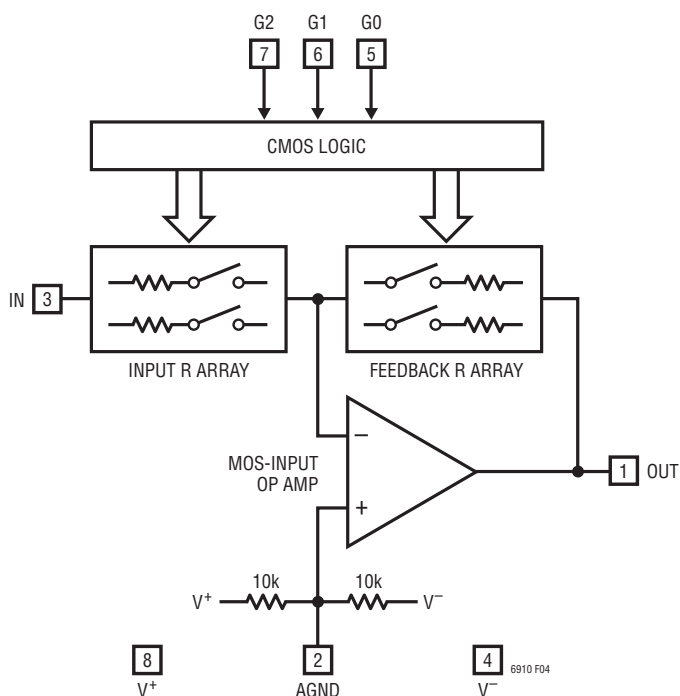
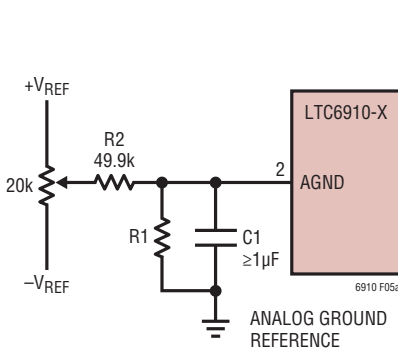

Figure 4. Block Diagram
Figure 5a. Offset Nulling
**AGND (Pin 2):** Analog Ground. The AGND pin is at the midpoint of an internal resistive voltage divider, developing a potential halfway between the  $V^+$  and  $V^-$  pins, with an equivalent series resistance to the pin of nominally 5k $\Omega$  (Figure 4). AGND is also the noninverting input of the internal op amp, which makes it the ground reference voltage for the IN and OUT pins. Because of this, very “clean” grounding is important, including an analog ground plane surrounding the package.
**IN (Pin 3):** Analog Input. The input signal to the amplifier in the LTC6910-X is the voltage difference between the IN and AGND pins. The IN pin connects internally to a digitally controlled resistance whose other end is a current summing point at the same potential as the AGND pin (Figure 4). At unity gain (digital input 001), the value of this input resistance is approximately 10k $\Omega$  and the IN voltage range is rail-to-rail (V+ to V-). At gain settings above unity (digital input 010 or higher), the input resistance falls. Also, the linear input voltage range falls in inverse proportion to gain. (The higher gains are designed to boost lower level signals with good noise performance.) Tables 1, 2, and 3 summarize this behavior. In the “zero” gain state (digital input 000), analog switches disconnect the IN pin internally and this pin presents a very high
The LTC6910 family are small outline, wideband inverting DC amplifiers whose voltage gain is digitally programmable. Each delivers a choice of eight voltage gains, controlled by the 3-bit digital inputs to the G pins, which accept CMOS logic levels. The gain code is always monotonic; an increase in the 3-bit binary number (G2 G1 G0) causes an increase in the gain. Table 1, Table 2 and Table 3 list the nominal voltage gains for LTC6910-1, LTC6910-2 and LTC6910-3 respectively. Gain control within each amplifier occurs by switching resistors from a matched array in or out of a closed-loop op amp circuit using MOS analog switches (Figure 4). Bandwidth depends on gain setting. Curves in the Typical Performance Characteristics section show measured frequency responses.
Settling time in the CMOS gain-control logic is typically several nanoseconds and faster than the analog signal path. When amplifier gain changes, the limiting timing is analog, not digital, because the effects of digital input changes are observed only through the analog output (Figure 4). The LTC6910-X’s logic is static (not latched) and therefore lacks bus timing requirements. However, as with any programmable-gain amplifier, each gain change causes an output transient as the amplifier’s output
The electrical tables list DC offset (error) voltage at the inputs of the internal op-amp in Figure 4,  $V_{OS(OA)}$ , which is the source of DC offsets in the LTC6910-X. The tables also show the resulting, gain dependent offset voltage referred to the IN pin,  $V_{OS(IN)}$ . These two measures are related through the feedback/input resistor ratio, which equals the nominal gain-magnitude setting, G:
Offset voltages at any gain setting can be inferred from this relationship. For example, an internal offset  $V_{OS(OA)}$  of 1mV will appear referred to the IN pin as 2mV at a gain setting G of 1, or 1.5mV at a gain setting of 2. At high gains,  $V_{OS(IN)}$  approaches  $V_{OS(OA)}$ . (Offset voltage can be of either polarity; it is a statistical parameter centered on zero.) The MOS input circuitry of the internal op amp in Figure 4 draws negligible input currents (unlike some op amps), so only  $V_{OS(OA)}$  and G affect the overall amplifier’s offset.
Because internal op amp offset voltage  $V_{OS(OA)}$  is gain independent as noted above, offset trimming can be readily added at the AGND pin, which drives the noninverting input of the internal op amp. Such a trim shifts the AGND voltage slightly from the system's analog ground reference, where AGND would otherwise connect directly. This is convenient when a low resistance analog ground potential or analog ground reference exists, for the return of a voltage divider as in Figure 5a. When adjusted for zero DC output voltage when the LTC6910-X has zero DC input voltage, this DC nulling will hold at other gain settings also.
Figure 5a shows the basic arrangement for dual-supply applications. A voltage divider (R1 and R2) scales external reference voltages  $+V_{REF}$  and  $-V_{REF}$  to a range equaling or slightly exceeding the approximately  $\pm 10\text{mV}$  op amp offset-voltage range. Resistor R1 is chosen to drop the  $\pm 10\text{mV}$  maximum trim voltage when the potentiometer is set to either end. Thus if  $V_{REF}$  is 5V, R1 should be about  $100\Omega$ . Note also that the two internal 10k resistors in Figure 4 tend to bias AGND toward the mid-point of  $V^+$  and  $V^-$ . The external voltage divider will swamp this effect if R1 is much less than  $5\text{k}\Omega$ . When considering the effect of the internal 10k resistors, note that they form a Thévenin equivalent of  $5\text{k}$  in series with an open-circuit voltage at the halfway potential  $(V^+ + V^-)/2$ . (Although
With this trim technique in place, the remaining DC offset sources are drifts with temperature (typically  $6\mu\text{V}/^\circ\text{C}$  referred to  $V_{OS(OA)}$ ), shifts in the LTC6910-X's supply voltage divided by the PSRR factors, supply voltage shifts coupling through the two 10k internal resistors of Figure 4, and of course any shifts in the reference voltages that supply  $+V_{REF}$  and  $-V_{REF}$  in Figure 5a.
At a gain setting of 10V/V in an LTC6910-1 (digital input 100) and a 250ksps sampling rate in the LTC1864, a 10kHz input signal at 60% of full scale shows a THD of -87dB at the digital output of the ADC. 100kHz input signals under the same conditions produce THD values around -75dB. Noise effects (both random and quantization) in the ADC are divided by the gain of the amplifier when referred to  $V_{IN}$  in Figure 4. Because of this, the circuit can acquire a signal that is 40dB down from full scale of 5VP-P with an SNR of over 70dB. Such performance from an ADC alone ( $70 + 40 = 110\text{dB}$  of useful dynamic range at 250ksps), if available, would be far more expensive.